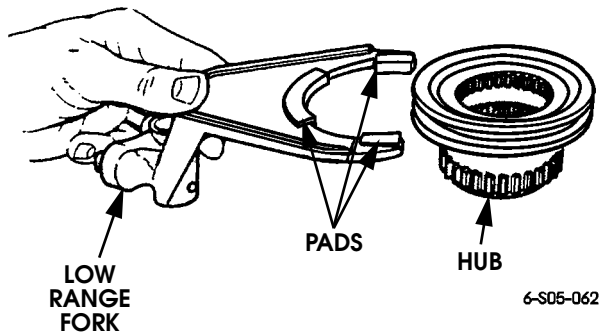

Figure 5-141: Assembling Low Range Fork and Hub
6. Assemble low range fork and hub. Replace pads on fork if worn or damaged (Figure 5-141).